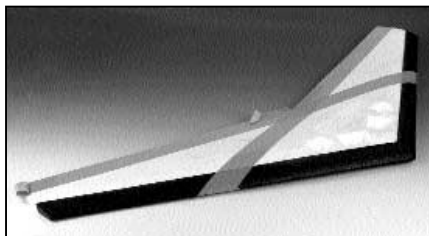

fig.3
- ❑ 1. Start by laying a cross of tape top and bottom of the wing as shown in fig. 3.